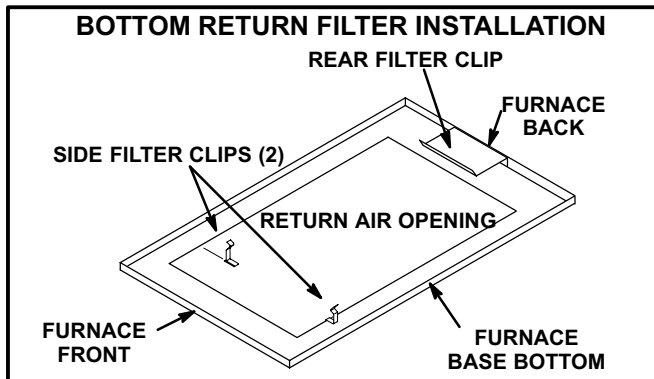

Figure 4
**Bottom Return Air Filter Installation (Figure 4)**
- 3 - Remove filter by pressing side filter clips and pulling filter up and out. See figure 4.